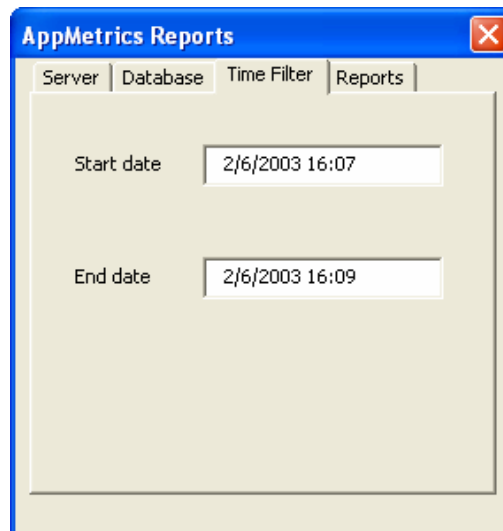

Figure 3
6. Click on the **Time Filter** tab to select the time period of the data to be viewed. This tab provides dates and times that are available (i.e. data was generated and uploaded to the database) for the monitor chosen in the Dataset tab (see Figure 3).